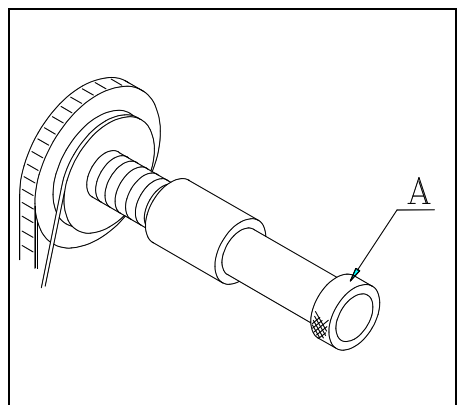

Fig. 4.4
Strap tension increase or decrease by turning outside tension bar (A) clockwise or anti-clockwise.(refer to Fig.4.4)